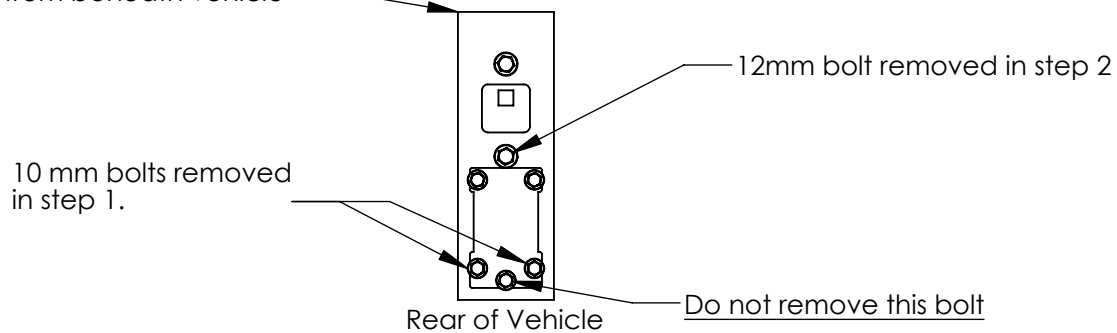

Figure 1-1
1. Remove (2) rearmost spring shackle mounting bolts from each side and retain for hitch installation. **Note: Remove only the two outer bolts see Figure 1-1.**